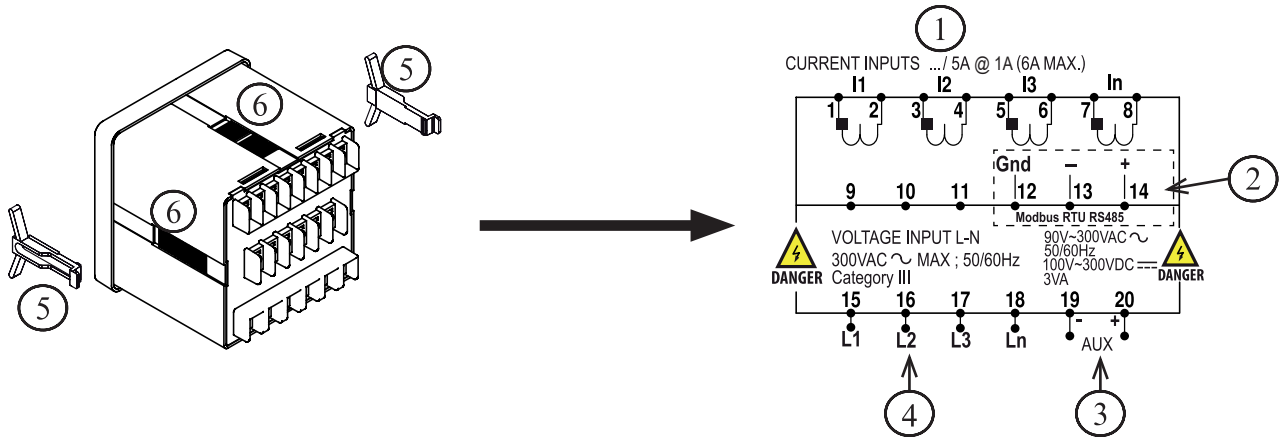

Figure 1: Parts of power meter
b) Insert the power meter through the hole and slide in the retainer clip along the slots on left and right sides or bottom and top sides of the power meter until the device is tightly secured on the switchgear panel. The orientation of the retainer clips is shown in Figure 1. The retainer clip can be removed by lifting the tab lightly at the handle end.